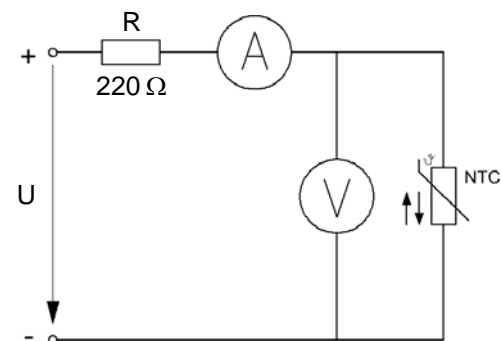

Fig. 2.1.1.1: Characteristic recording $I = f(U)$ and $R = f(U)$
- Assemble the exercise circuit on the Board (Fig. 2.1.1.1).